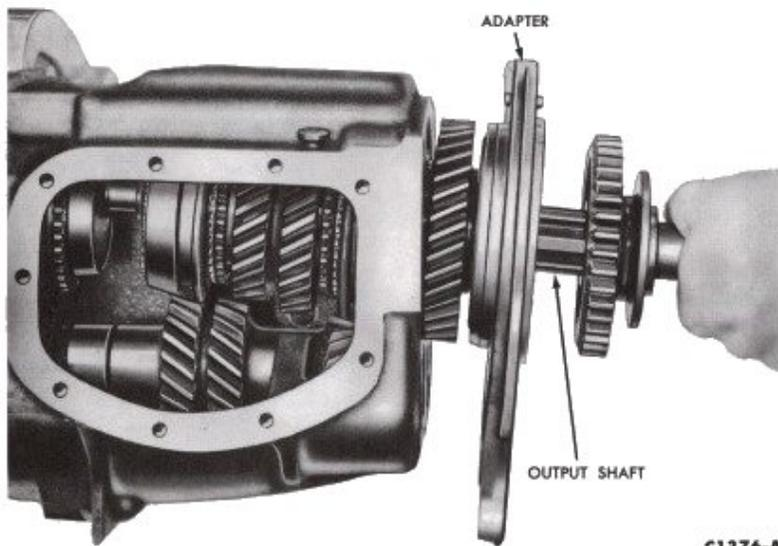

FIG. 10—Output Shaft Removal
7. Remove the self-locking bolt that attaches the adapter plate to the transmission case. Remove the transmission output shaft assembly along with the adapter plate (Fig. 10). Catch any of the input shaft pilot rollers that may stick to the output shaft. Remove the remaining rollers from the input shaft bore.